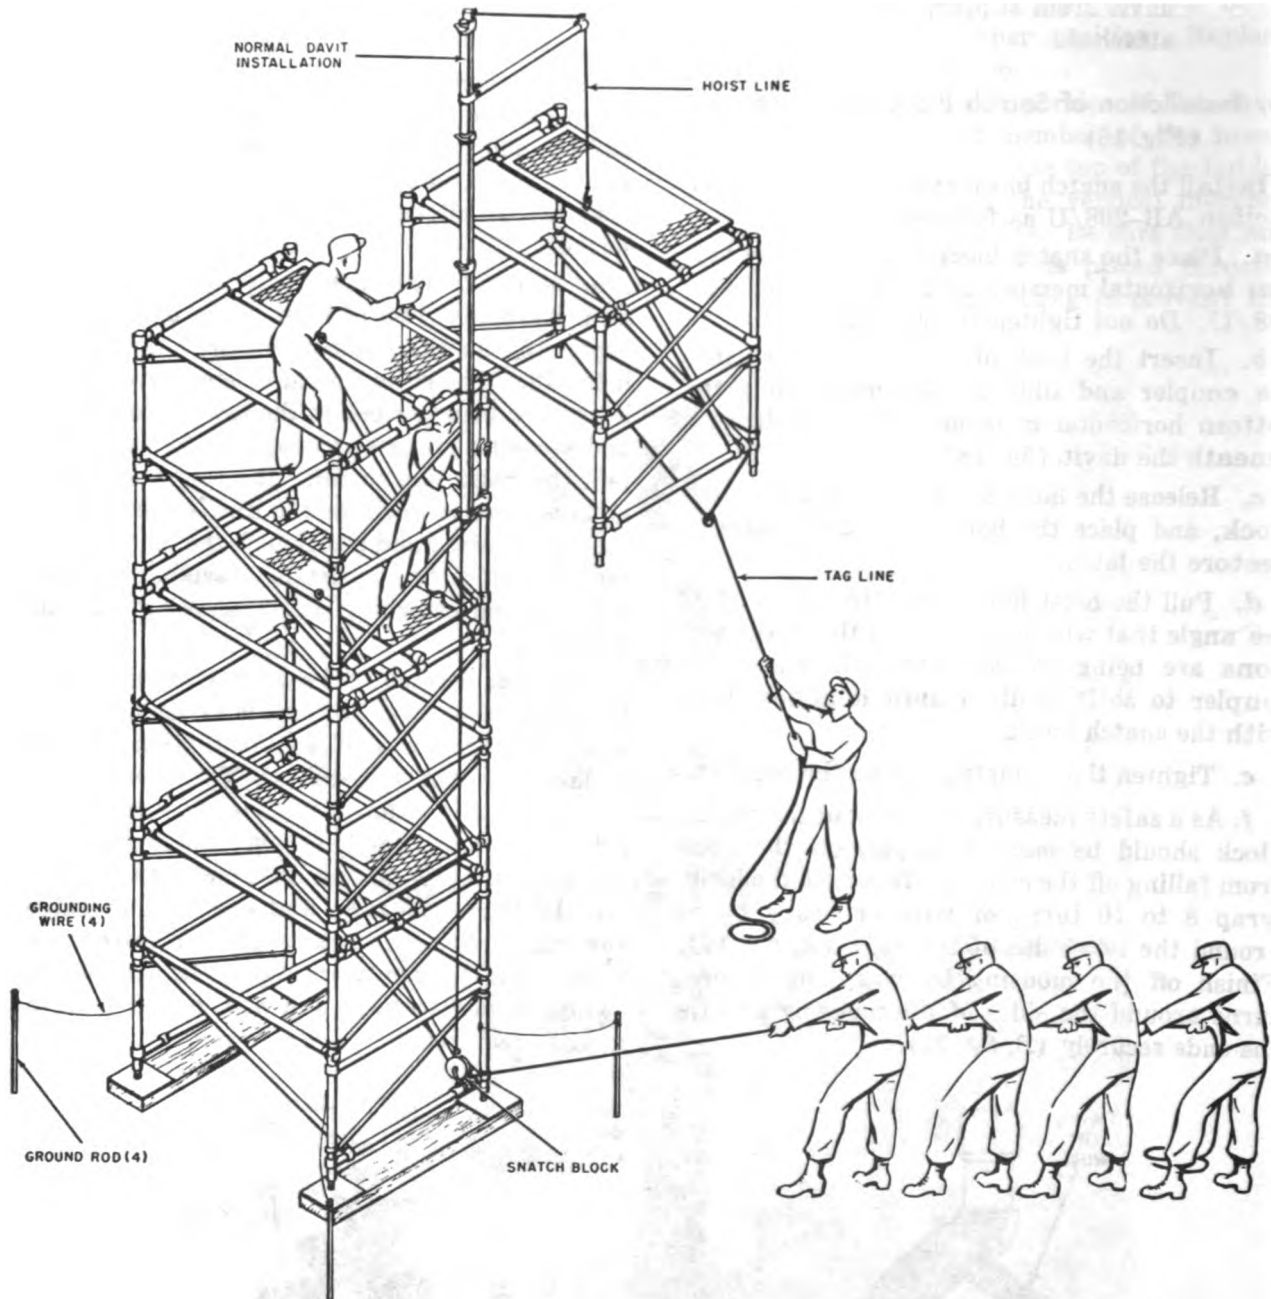

Figure 18. Raising tower sections manually.
b. Insert the hook of the snatch block into the coupler and slide the assembly along the bottom horizontal member until it is directly beneath the davit (fig. 18).
a. *Manually* (fig. 18). This method requires an installation crew of from seven to nine men depending on the number required to pull the hoist line. The crew should be employed as follows: two men to work in the tower positioning and securing tower sections; four to six men to pull the hoist line to raise the tower sections; and one man to work the tag line. After a tower section is raised and positioned, the men used to pull the hoist line assist in assembling tower sections and attaching and tensioning guys as required.
the line to itself. Use the tag line to control the swinging motion of the tower section as it is being raised (fig. 18).